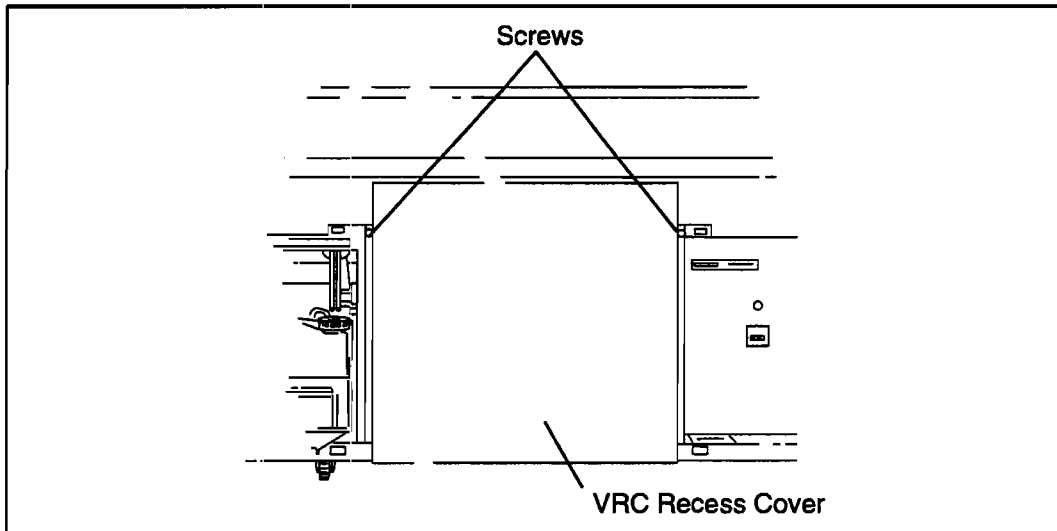

Figure 3-8. Center Cover Removal
2. Unscrew the two screws at the upper sides of the center cover. See Figure 3-8. Pull the top of the cover toward you and lift to remove the cover. Set the center cover off to the side.